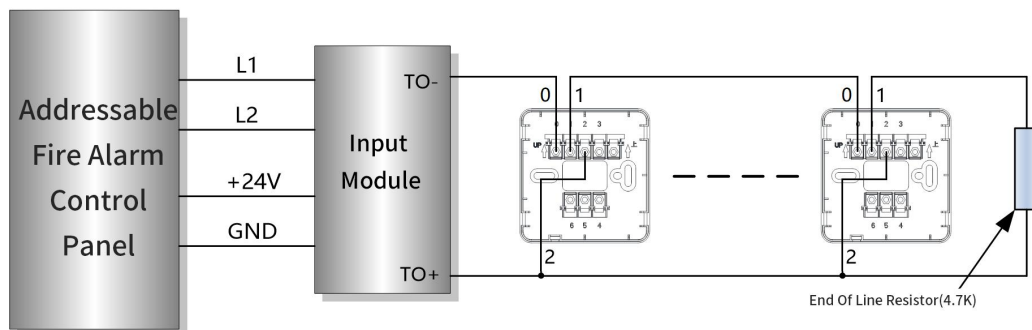

Fig.3
5.2 The general use function and wiring diagram are shown in Fig.3: